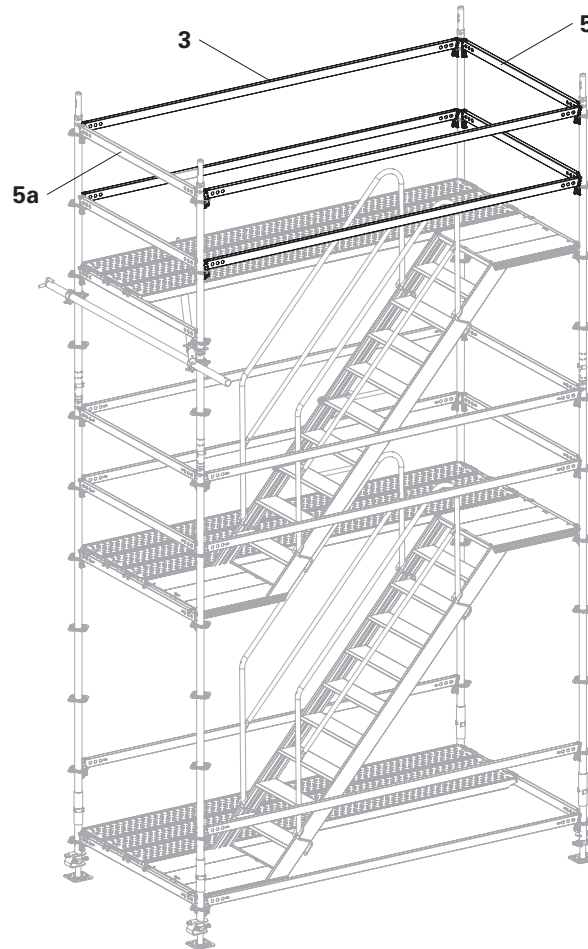

Fig. A4.06
1. Fit 4 x Horizontal Ledgers UH-2 150 (**5**) and 4 x Horizontal Ledgers UH-2 300 (**3**). Hammer all wedges into place. (Fig. A4.06)
The Horizontal Ledgers UH-2 150 (**5a**) following installation of the Flex Stair on the next level. (Fig. A4.06)